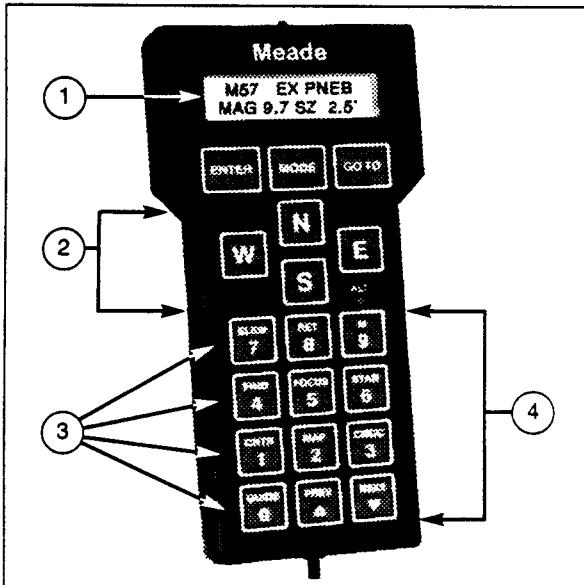

Fig. 6: Keypad Hand Controller. (1) Display); (2) Direction Keys; (3) Speed Indicator LEDs; (4) Speed Selection Keys.
- On the Power Panel, turn on the LX200 power switch. The Keypad Display (1, Fig. 6) will show "Meade" for several seconds as the microprocessor does a self-diagnostic test. When the self-diagnostic test is complete, the display will show "TELESCOPE" on the top line, "OBJECT LIBRARY" on the lower line, and the red LED light next to the "SLEW" button will light up.
- At this point, the LX200 is ready to use. Select the speed at which you want to move the telescope by pressing the appropriate Speed Selection Key (4, Fig. 6). Note that you will be able to "see" the telescope move only in the SLEW and MOVE modes; CNTR (center) and GUIDE motions can only be seen while looking through the telescope. The red LED next to that key (3, Fig. 6) will light, indicating the speed selected. Then press one of the four direction keys (2, Fig. 6) to move the telescope in that direction at the selected speed.
step will also be a sample of what the Keypad Hand Controller display (1, Fig. 6) should look like after each step.